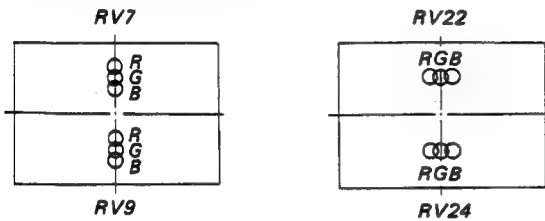

Fig. 1-16.
7. Adjust RV7, RV9 and RV22, RV24 on the DC board to coincide with the R, G and B dots as shown in Fig. 1-16.